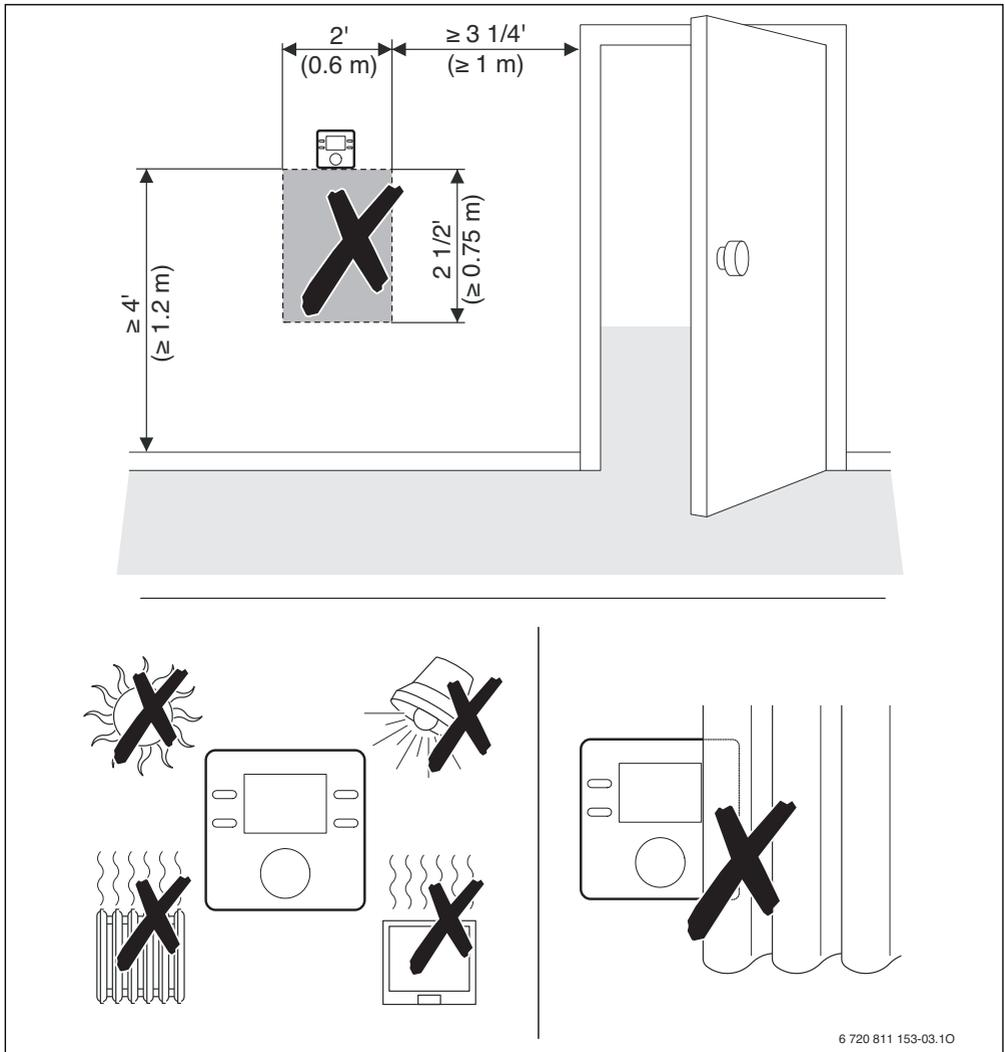

Fig. 5 Installation location in the reference room
- The installation location (= reference room) must be suitable for controlling the zone (→ Fig. 5, Page 7).